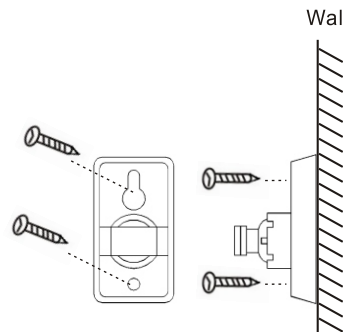

Figure 2
- 9.2 Fix the stand at a height of 2.3m on wall using screws, as shown in figure 2.